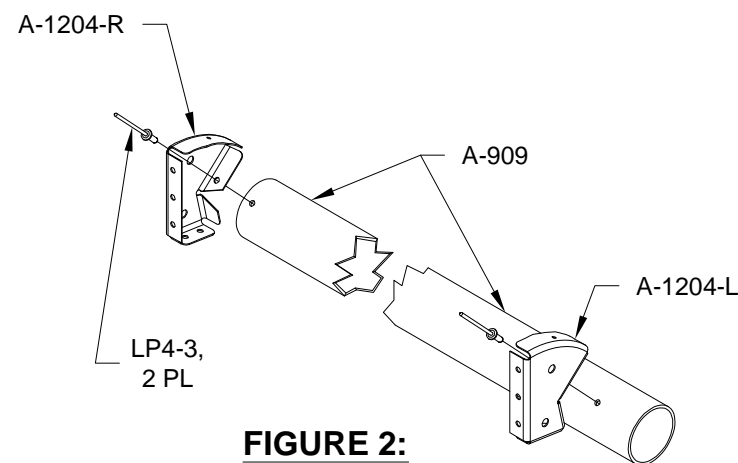

FIGURE 2:
Step 3: Un-cleco all the parts. Deburr the two holes just drilled into the A-909 Aileron Counterbalance. Rivet the A-1204-L & -R Outbd Nose Ribs to the aileron counterbalance as shown in Figure 2.